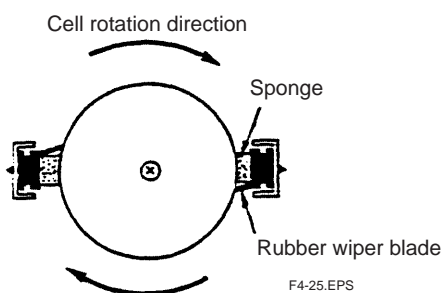

Figure 4.25
4. Insert a new rubber wiper into the wiper plate by reversing procedure 3. Then look from below, as shown in Figure 4.25, and check that the wiper blade is installed in the direction of cell rotation.